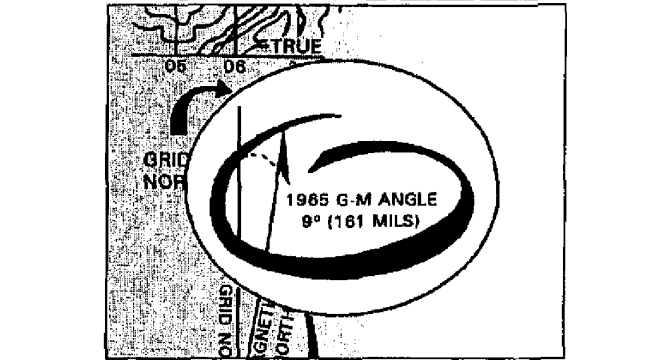

Figure C-31. G-M angle
2. The difference between grid north and magnetic north is called the grid-magnetic (G-M) angle. The diagram at the bottom of the map tells you how to change grid azimuths to magnetic azimuths and magnetic azimuths to grid azimuths (figure C-31).